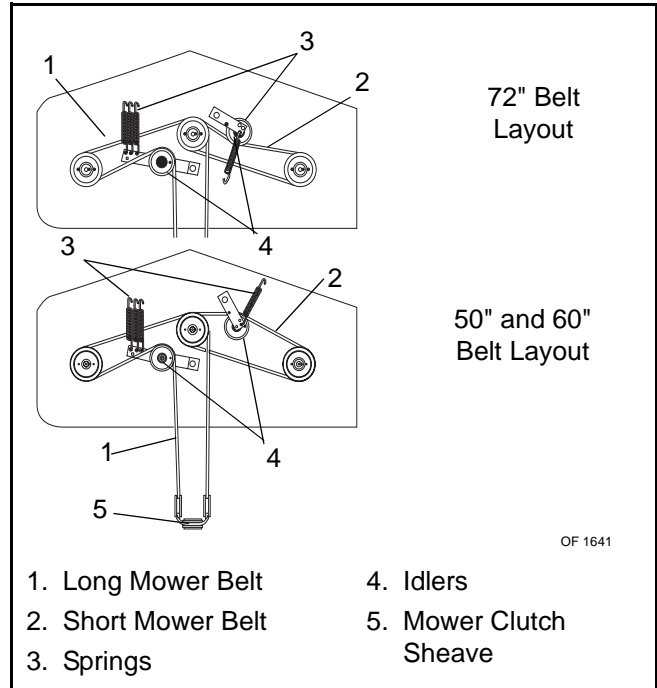

Figure 10
2. Roll short belt off right blade spindle and remove from deck. Idler pivot bolt must be loosened slightly to gain clearance to remove belt from under idler pulley (Figure 10).